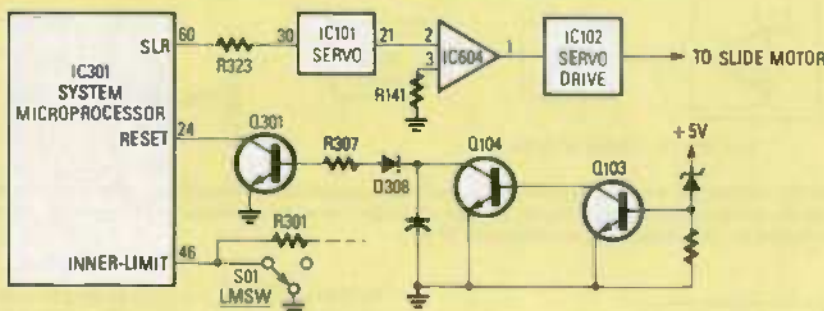

FIG. 28—IF THE PICKUP does not move to the inner limit when power is first applied, this troubleshooting diagram can help pin down the cause.
3. Pickup does not move to inner limit when power is applied; disc directory is not read properly. Figure 28 is the troubleshooting diagram. When power is first applied, the pickup moves to the inner limit. The system microprocessor applies a temporary SLR (reverse) signal to the pickup servo. In Fig. 28, a reset signal is generated by the circuit made up of Q103, Q104, Q301; it is applied to pin 24 of IC301. That produces a temporary SLR signal at pin 60 of IC301, which is applied to the motor through IC101, IC604, and IC102. That signal causes the pickup to move inward until the inner-limit LMSW switch, S01, is actuated.